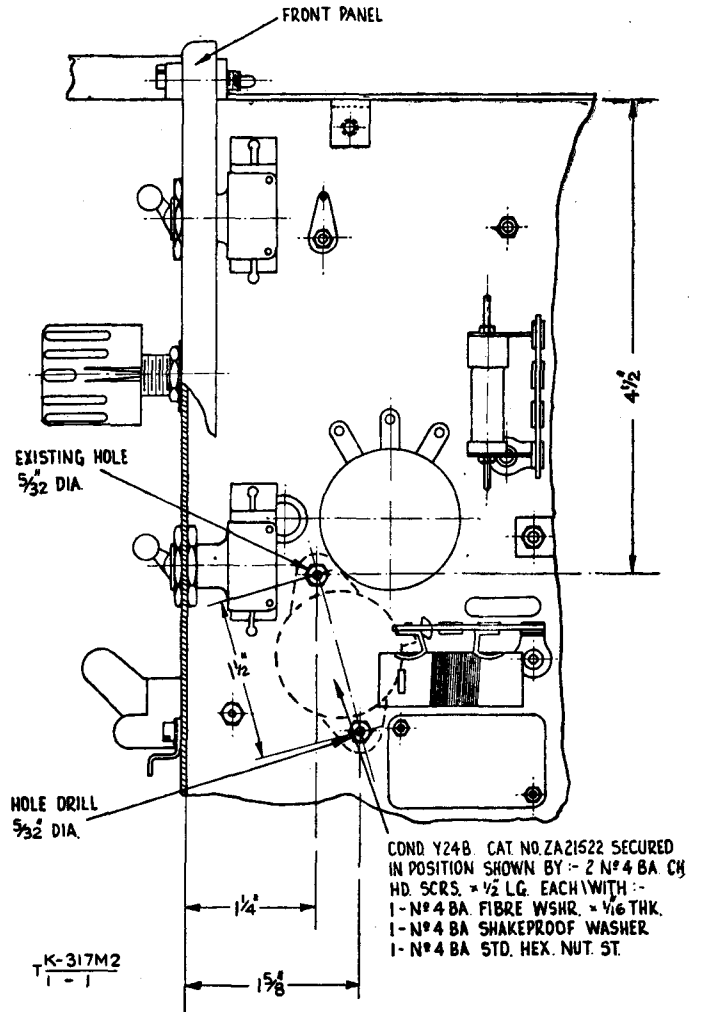

Fig. 1—Amplifier, R.F., No. 2, fitting of ceramic condenser Y24B
- (e) Drill one hole $\frac{5}{32}$ in. dia. (22 drill) as shown in Fig. 1.